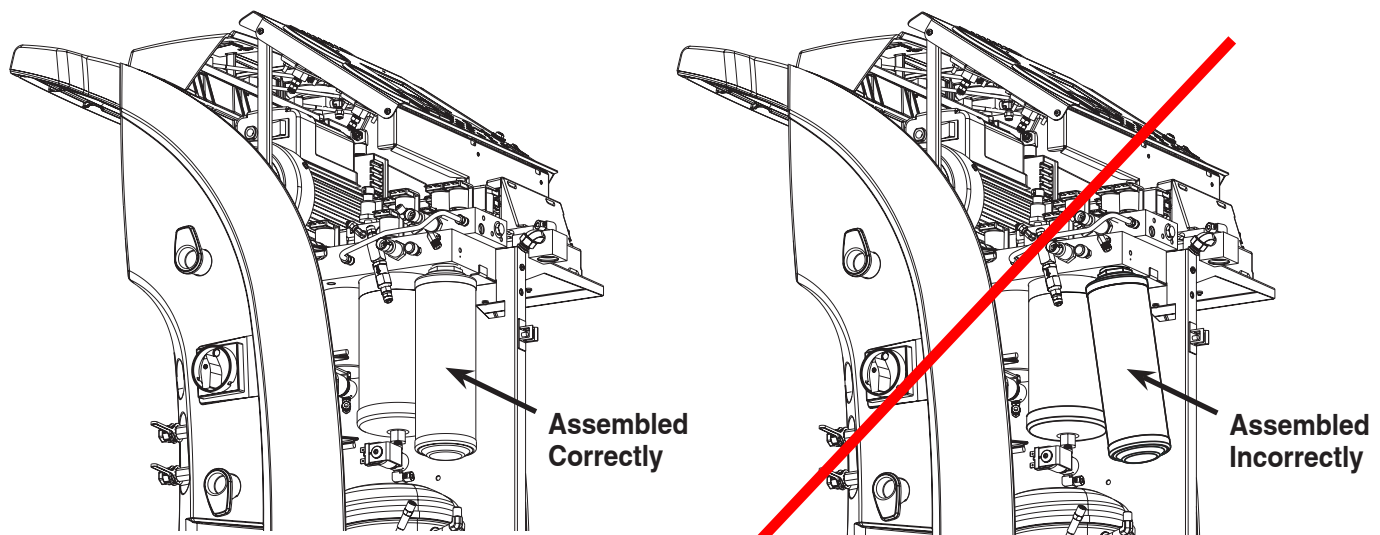

Figure 17
6. Install the new filter by threading it clockwise into place. Verify the filter is positioned correctly as shown in Figure 17. Tighten the filter to 20 N•m.